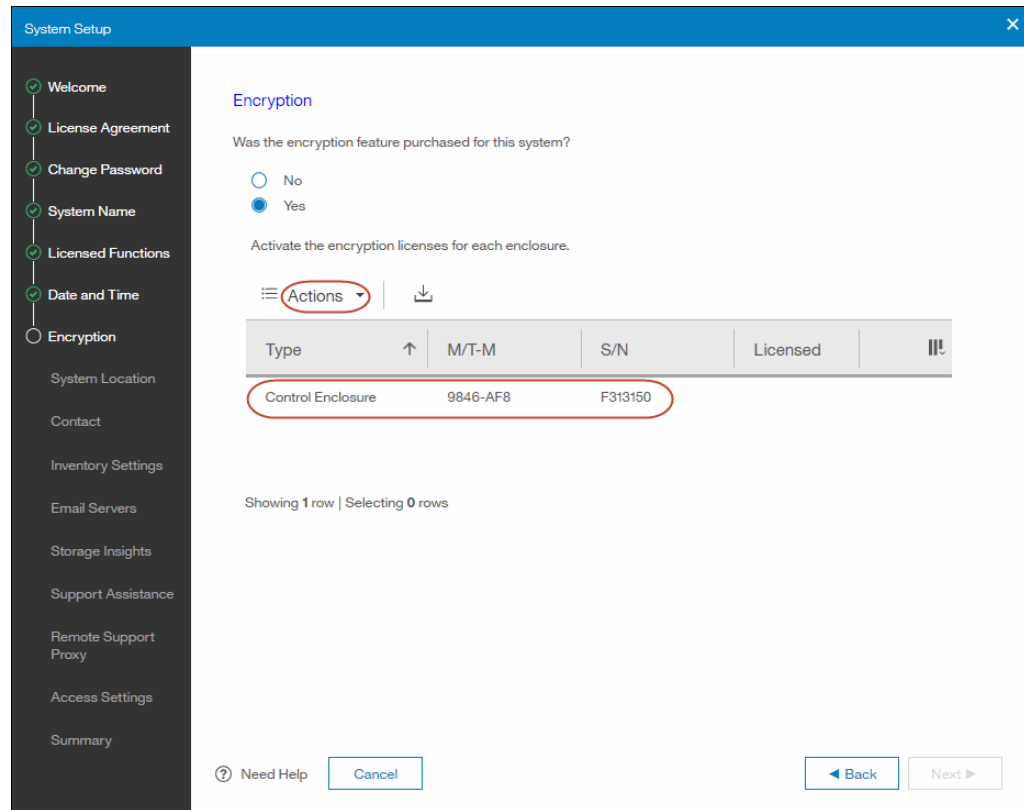

Figure 6-88 Activating the encryption feature license
1. Select the enclosure for which the encryption feature is to be activated (Figure 6-88 on page 228).
2. Select **Actions** → **Activate License Automatically** (Figure 6-88).